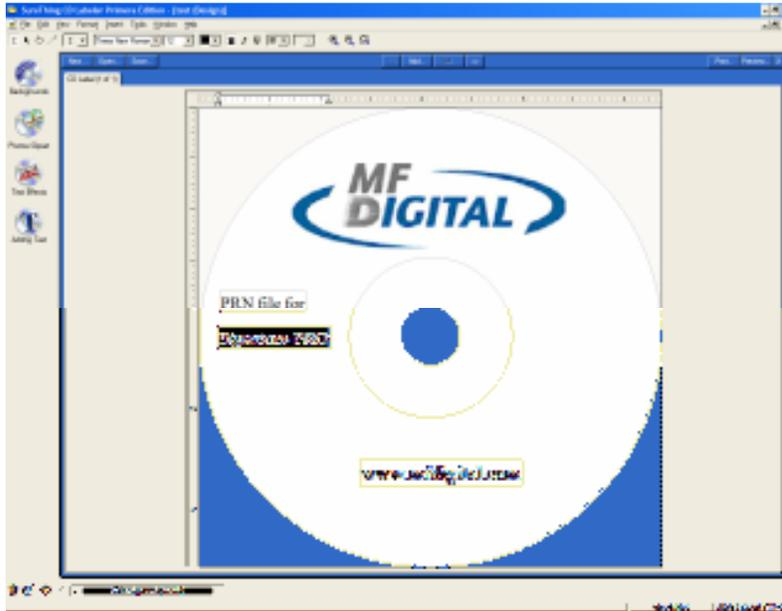

Fig.1 SureThing CD Label software.
1. From your Start Menu Open the *SCRIBE EC Alignment Utility* (**fig. 1**). It will be located in the folder designated when you installed the alignment utility. Choose the appropriate COM Port which the Scribe EC Loader is installed on, select the *“All other printer types or drives’ bay”* and then click the *Start Test* button.
(fig. 1)
1. From the Start Menu Open the *SCRIBE EC Alignment Utility*. It will be located in the folder designated when you installed the alignment utility. Choose the appropriate COM Port Number, which the Scribe EC Loader is connected to then choose the *OptiEC* then Click the *Start Test* button (fig. 1).
- 1) Open up the *SureThing CD Label* software as shown in fig. 1.